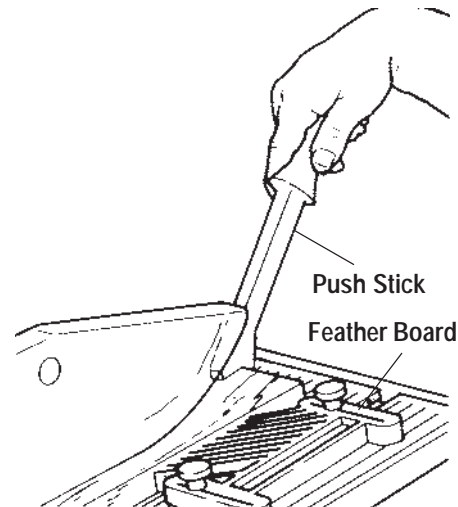

Figure C-7
3. Turn the machine on and set the correct speed. Feed the stock into the blade while keeping it pressed firmly against the fence. Use a push stick or optional push block to finish the cut. See Figure C-7.